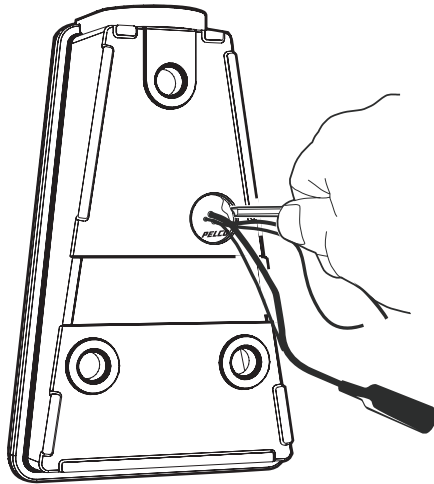

Figure 6. Removing the Wiring Plug
3. Using a blunt tool push out the wiring plug in the bottom of the base (refer to Figure 6). Pull the wiring inside the base.